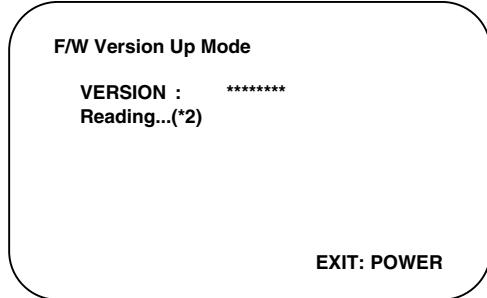

Fig. 3-2-3 Programming Mode Screen
4. The DVD player enters the F/W version up mode automatically. Fig. 3-2-3 appears on the screen and Fig. 3-2-4 appears on the VFD.
The appearance shown in (\*2) of Fig. 3-2-3 is described as follows: